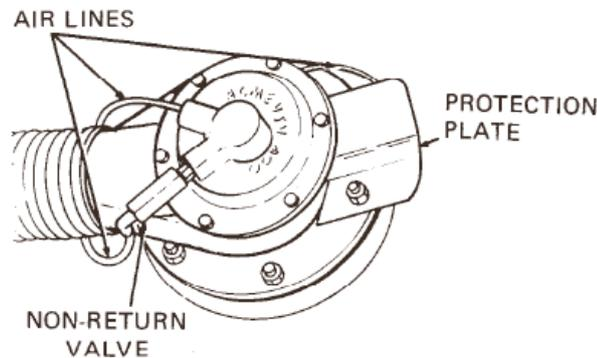

Figure 17 Vapour Transfer Vent
- Remove the nut and washer securing the air line protection plate to the vent and remove the protection plate (Figure 17).
- c. Install the non-return valve to the correct port (Figure 17) then connect the air lines as tagged.